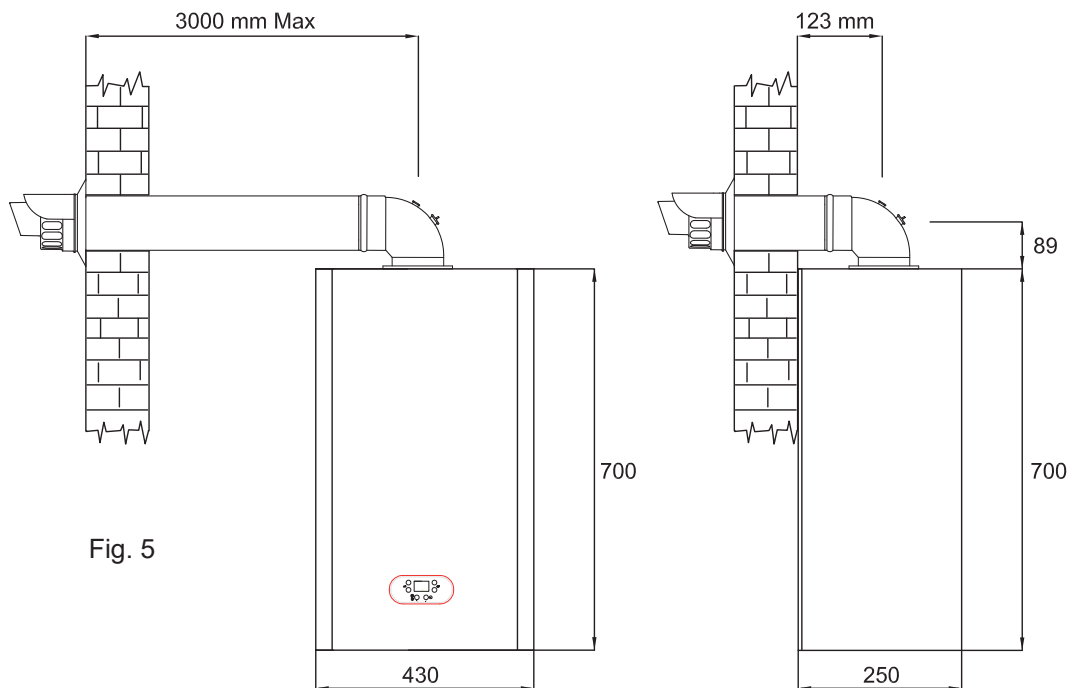

Fig. 5
2.7 OVERALL DIMENSION (Fig. 5)